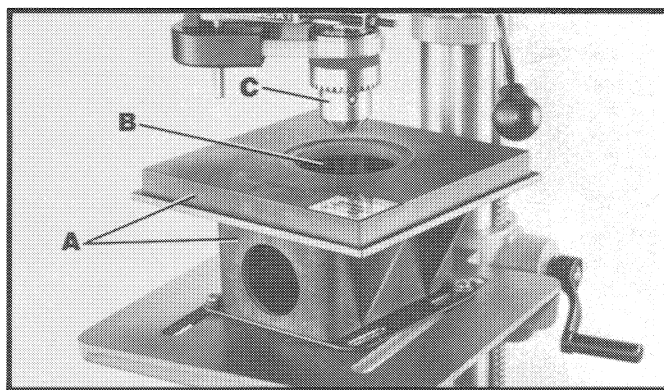

Fig. 19
1. The base and table assembly (A) can be mounted directly to the drill press table, as shown in Fig. 19, or to a wooden mounting board. The center of the opening (B) in the table must line up with the center of the chuck (C) in order that the sanding drum will move up and down in the center of the opening. If the base is to be mounted to a wooden support, the wooden mounting board must then be C-clamped to the drill press table.